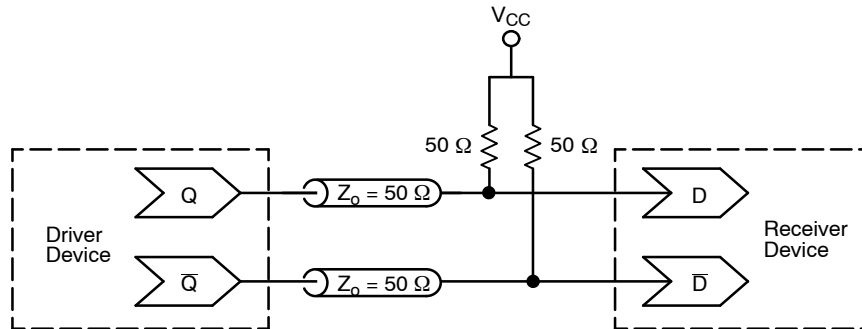

Figure 14. Typical Termination for Output Driver and Device Evaluation
1. CML outputs require $50\text{ }\Omega$ receiver termination resistors to V_{CC} for proper operation. See Figure 14.